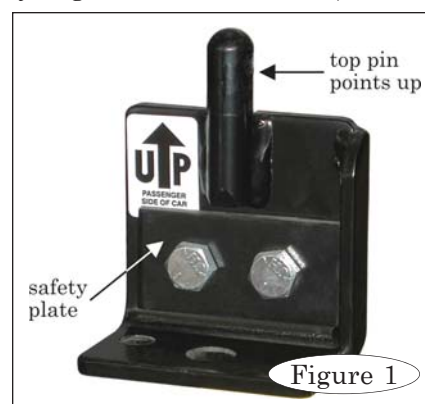

Figure 1
- Make sure both of the quick-disconnects (QDs) have safety plates (Figure 1). If they don't, add the safety plates before you tow again. Call Customer Service at 800-669-9690. This is a quick fix.
The top pins on both QDs (Figure 1) should be pointing straight up. If they aren't, this is a sign that the tow bar mounting bracket — or perhaps your vehicle's frame — may be bent or damaged. Check the brackets and the frame.